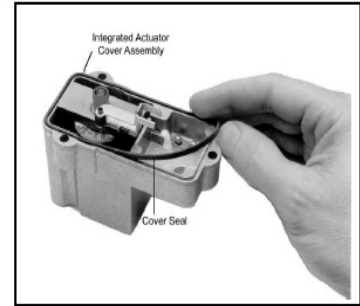

Figure 2
1. Install new cover seal (item 2) into the groove of the integrated actuator cover assembly as shown in Figure 2.